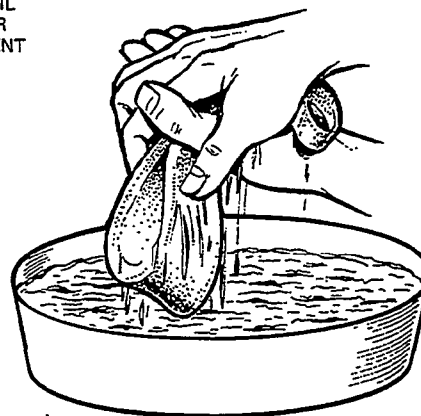

FIGURE 25. AIR CLEANER ASSEMBLY
1. To clean pre-cleaner wash in water and detergent (Figure 25). Remove excess water by squeezing like a sponge and allow to dry thoroughly.